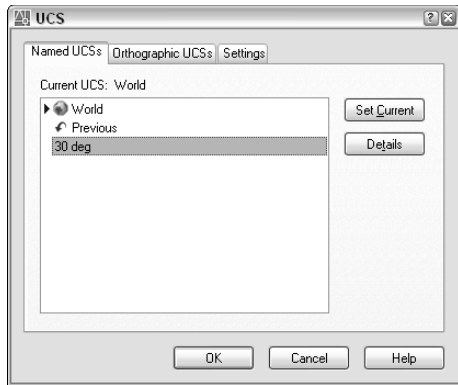

**Figure 8-18:** Use the UCS dialog box to save and restore a UCS.
2. Choose Tools ⇨ Named UCS to open the UCS dialog box with the Named UCSs tab on top, as shown in Figure 8-18. If your current UCS is not named, it is listed as *Unnamed* and highlighted. Previously named UCSs are also listed. You can also use this dialog box to return to the previous UCS or the World Coordinate System (WCS).